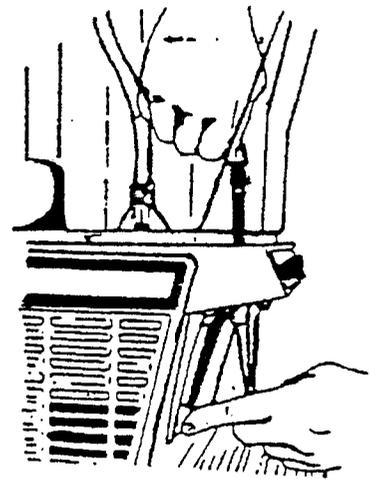

Fig. 3
8. Install pinch tube (see Fig. 3 above).